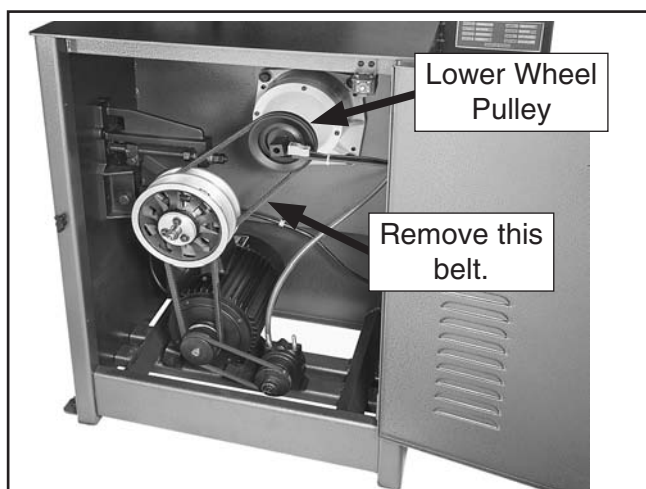

Figure 19. V-belt to remove in order to allow the wheels to spin by hand.
4. Roll the V-belt off the lower wheel pulley (see **Figure 19**). This will allow the wheels to turn freely by hand.